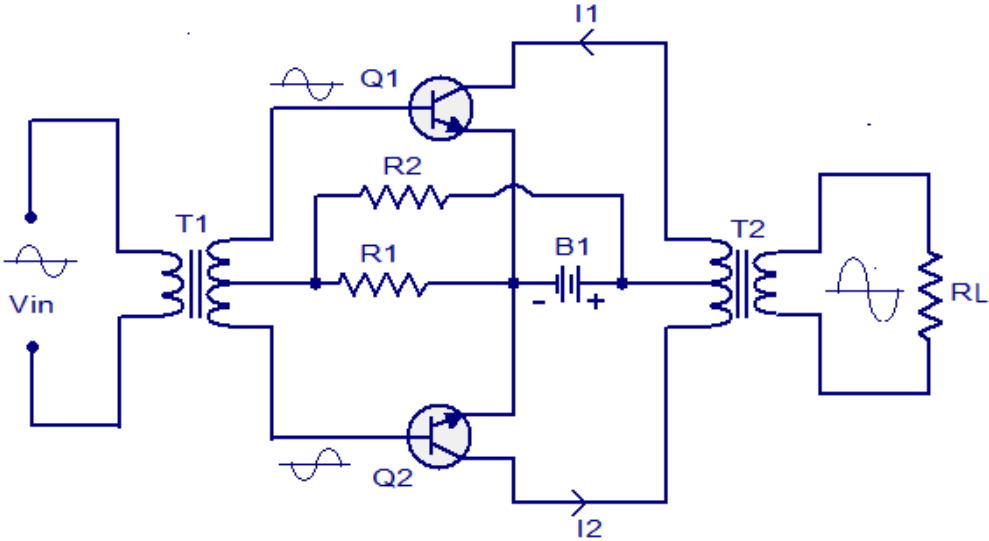

Fig. 1: Class A push pull amplifier
Class A push pull amplifier- The circuit diagram of a typical Class A push pull amplifier is shown in fig 1. Quiescent current of Q2 and Q1 flows in opposite directions through the corresponding halves of the primary of T2 and as a result there will be no magnetic saturation. The phase splitted signals being applied to the base of each transistor. When Q1 is driven positive using the first half of its input signal, the collector current of Q1 increases. At the same time Q2 is driven negative using the first half of its input signal and so the collector current of Q2 decreases. The collector currents of Q1 and Q2 i.e. I_1 and I_2 flows in the same direction through the corresponding halves of the T2 primary. As a result an amplified version of the original input signal is induced in the T2 secondary. It is clear that the current through the T2 secondary is the difference between the two collector currents.
1. Connect the circuit as per the circuit diagram fig 1.